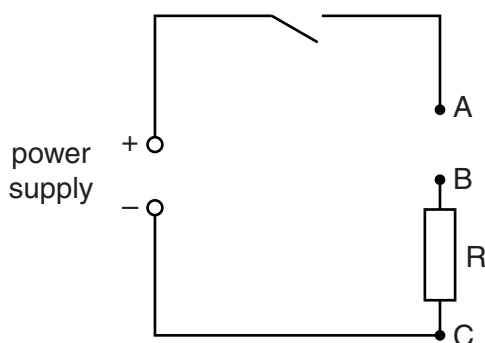

Fig. 2.1
Sufficient connecting leads to enable the Supervisor to set up the circuit shown in Fig. 2.1. The points A, B and C should be labelled.
5. Before the start of the experiment and at the changeover, the Supervisor should set up the circuit as shown in Fig. 2.1. The additional resistors, the voltmeter and the additional connecting leads should be laid out on the bench.